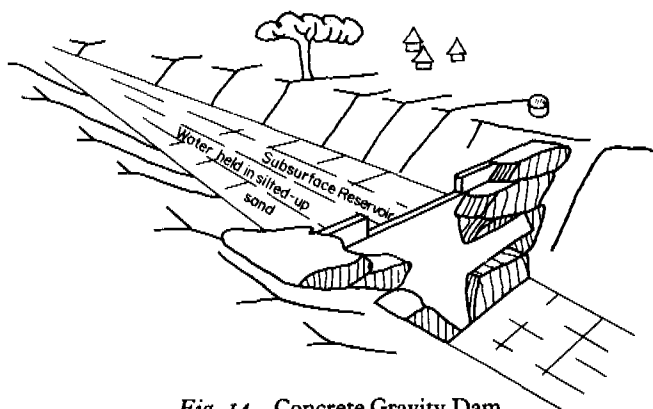

Fig. 14 Concrete Gravity Dam
- b) The second construction is a gravity concrete dam or weir which is situated across the watercourse and also reaches to the non-porous bed-rock. It protrudes above the riverbed to catch more water, thereby increasing the volume of the reservoir (see Fig. 14).